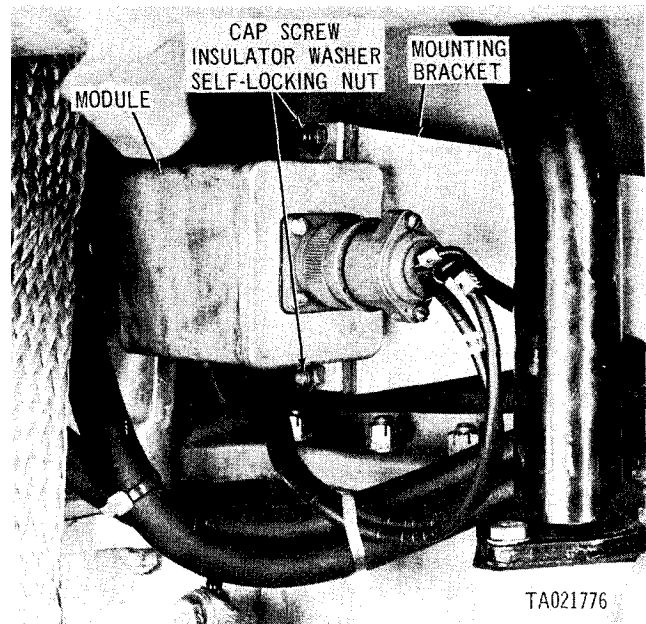

Figure 2-124. Removing or installing starter low voltage protective module.
a. Removal. Disconnect wiring harness. Remove two capscrews, insulator washers and self-locking nuts (fig. 2-124) and remove module from mounting bracket.
b. Installation. Install module (fig. 2-124) on mounting bracket and secure with two capscrews, insulator washers and self-locking nuts. Connect wiring harness.